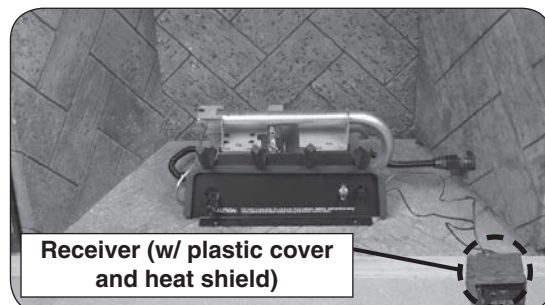

Fig. 16-4 Place remote receiver
4. **Place the remote receiver at the front right corner of the fireplace.** Place as far from the burner system as possible. See Fig. 16-4.
5. Place the plastic cover over the remote receiver with the open side facing forward to allow access to the receiver controls. Then place the decorative heat shield. See Fig. 16-4.